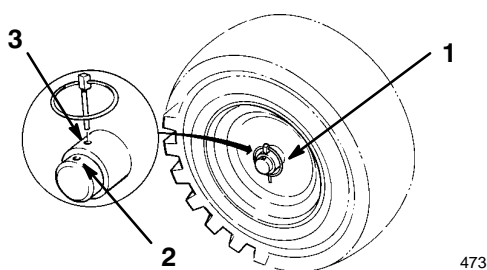

Figure 4
6. Slide the wheels inward and install the axle pin through the holes in the wheel hub and through the **inner** hole of the axle (Fig. 4).